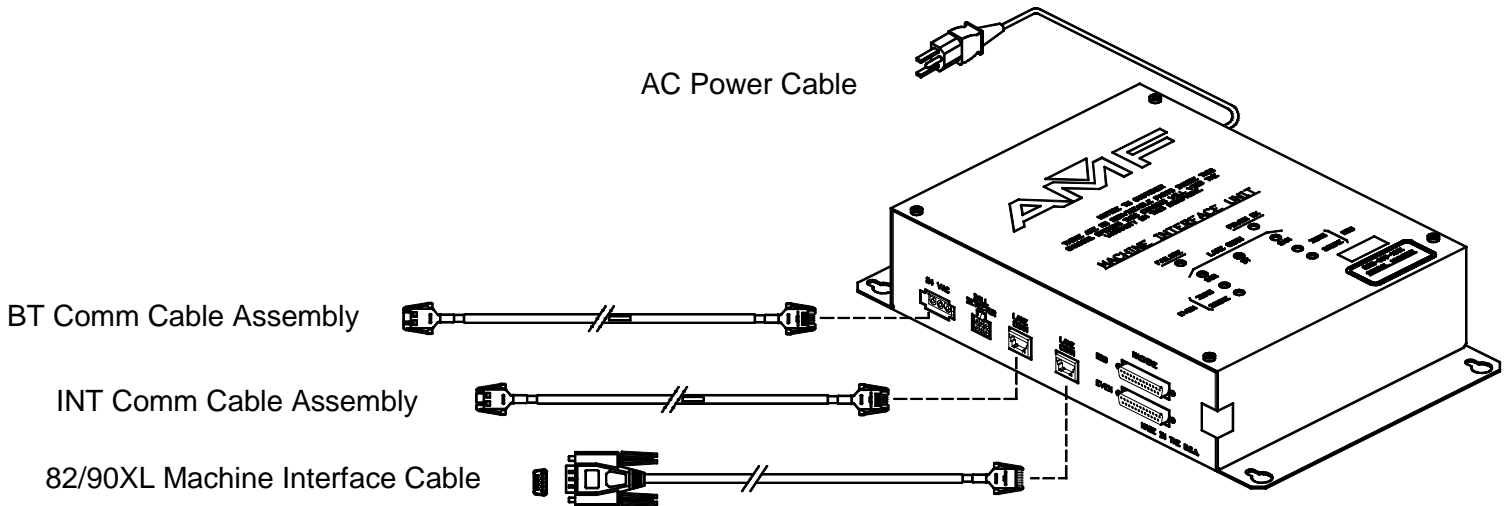

Figure 6-1 Connections to Machine Interface
3. CONNECT cables to MI Box: (see Figure 6-1)